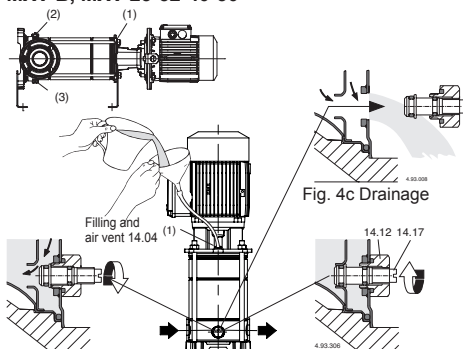

Fig. 4a Filling:
When the pump is located above the water level (suction lift operation, fig. 3A) or with a positive suction head which is too low (less than 1 m) to open the non-return valve, fill the suction pipe and the pump through the priming hole (1) (fig. 4a,4d).
MXV-B, MXV(L) 25-32-40-50, MXV(L)4 25-32-40-50 During filling, the needle screw (14.17) in the drainage plug (14.12) must be kept loose so as to allow a free passage between the pressure chamber and the suction chamber (Fig.4a).